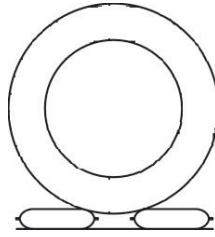

Figure 15 – Large Cylindrical Object
- 5.6.2 Large Cylindrical Object – Lifting objects such as a tank may require two air bags, side-by-side (see Figure 15). The object needs to be firmly fastened to prevent it shifting and/or rolling away. Inflate both bags at the same time to minimize danger.